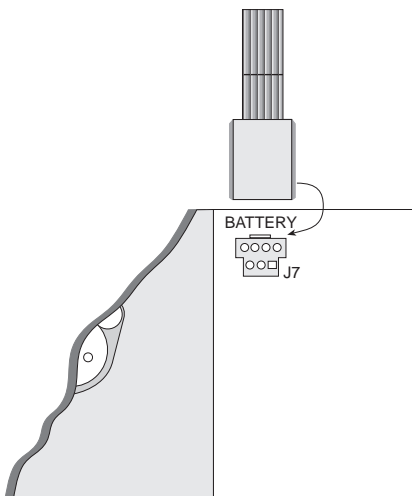

Figure 5: Connecting the battery harness
4. ***Plug the battery harness into connector J7 on the D9142F as shown in Figure 5.***